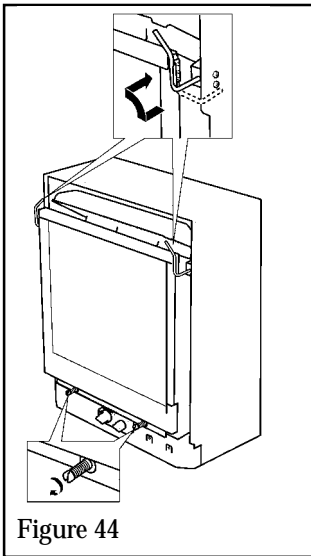

Figure 44
2. Pull the clamping bars forward and rotate inwards to secure the top of the window. See figure 44.
3. Fit the two spring loaded bolts through the bottom of the window and tighten to secure the bottom of the window. See figure 44.